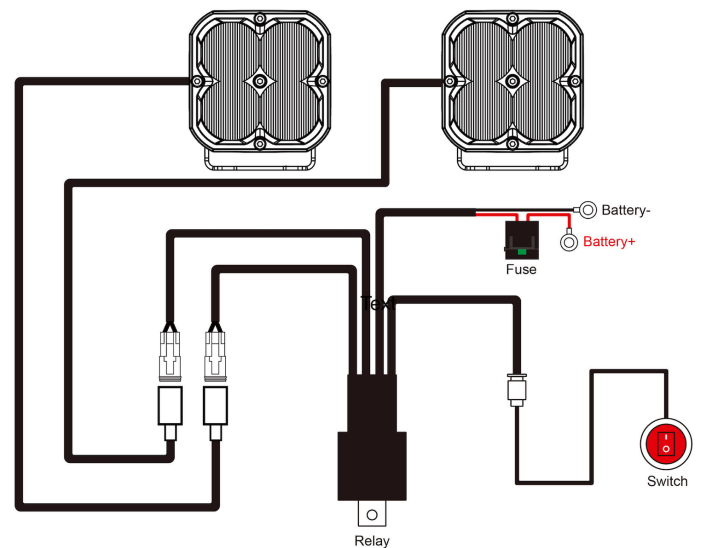

FIG 2
9. Connect the wires as illustrated in diagram FIG 2. Proper insulation at connections is required. Connect positive and negative wire properly. Press the switch to test if the lights are functioning properly.